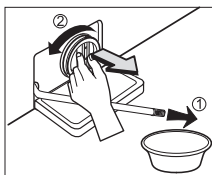

Fig. 13
- Carefully unscrew the coin-trap cover. (Fig.13)